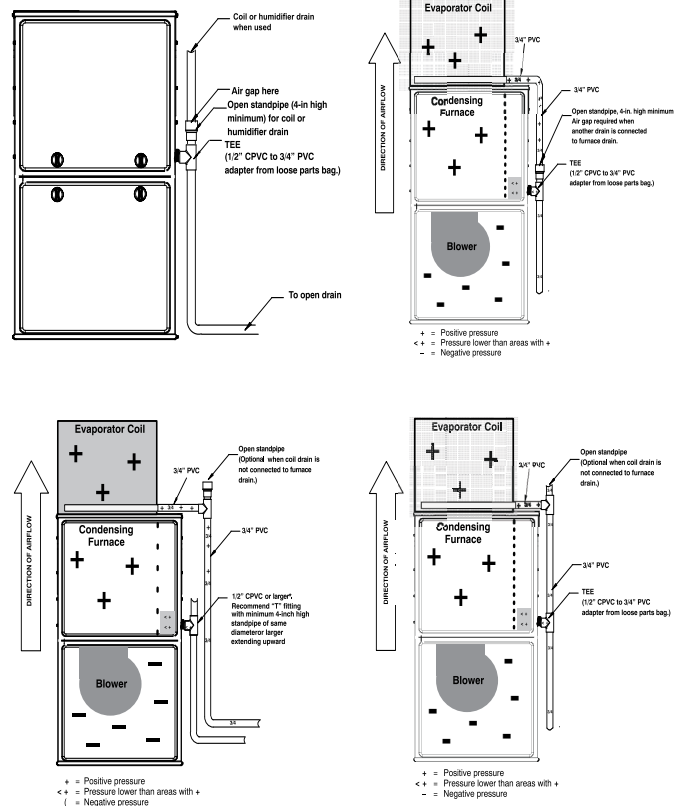

Fig. 11 – Example of Field Drain Attachment
- All condensate piping is at least 3/4-in. PVC and there is a relief tee at the top of condensate drain piping as shown in Fig. 11.